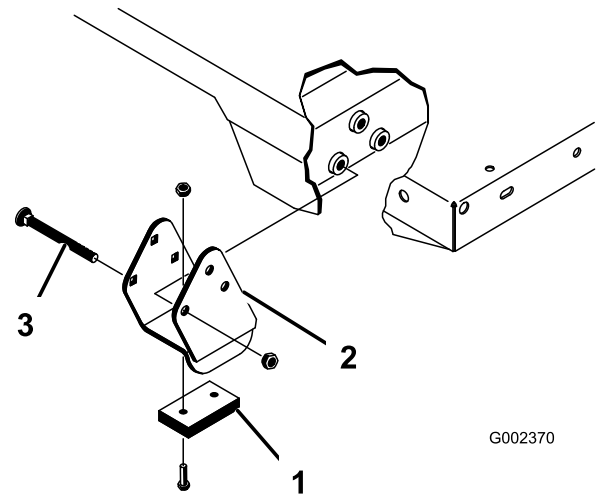

Figure 25
2. Carefully set the bed onto the machine frame, aligning the rear bed pivot-plate holes with the holes in the rear frame channel, and install the 2 clevis pins and lynch pins (Figure 25).
4. Insert the clevis pin from outside of the bed with the lynch pin oriented toward the outside (Figure 25).
Ensure that the spacer brackets and wear blocks (Figure 25) are installed with the carriage-bolt heads positioned inside the machine.